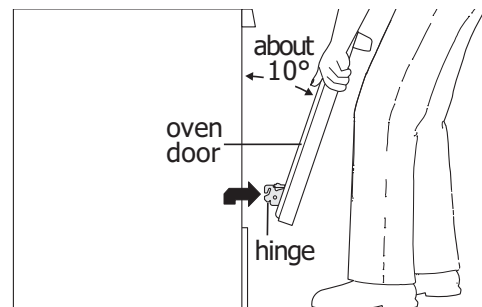
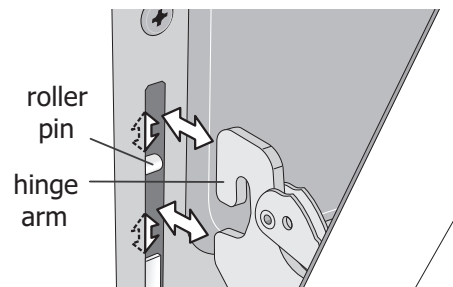

Figure 35: Holding door for removal
Figure 36: Replacement and location of hinge arm and roller pin
3. Firmly grasp both sides of oven door along the door sides. Do not use the oven door handle (See Figure 35).
4. Close the door to approximately 10 degrees from the door frame (See Figure 35).
5. Lift the oven door hinge arms over the roller pins located on each side of the oven frame (See Figure 36).
1. Firmly grasp both sides of oven door along the door sides. Do not use the oven door handle (See Figure 35).
2. Holding the oven door at the same angle as the removal position, seat the hook of the hinge arm over the roller pins located on each side of the oven door frame (See Figure 35 and Figure 36). The hook of the hinge arms must be fully seated onto the roller pins.